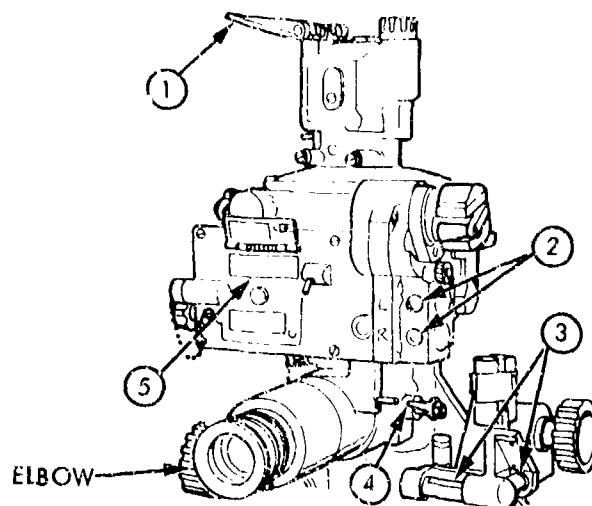

Figure 4-42. Preparing the M113 panoramic telescope for action.
(5) Uncover the level vials (③ fig 4-42) azimuth counter (⑤ fig 4-42) and set the gunner's aid counter (② fig 4-42) to 0. Level the M134 mount.
(6) Open the parallax shield (① fig 4-42) by releasing the lock.
(7) Release the lock plunger (④ fig 4-42) and turn the panoramic telescope elbow perpendicular to the weapon tube. The elbow can be rotated 140 mils by releasing the plunger (④ fig 4-42).
(8) Perform required before-operations Preventive Maintenance Checks and Services, (PMCS).
(9) If you have radioactively illuminated fire control instruments, be aware of the user's manual warning.